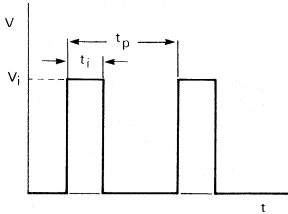

Fig. 3 Rectangular pulses.
- $\hat{V}_i$  = applied peak pulse voltage (Figs 3 and 4)